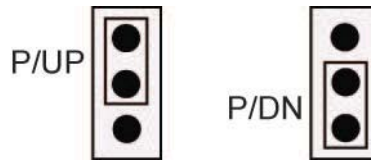

Figure 8. Pull-up/down jumper configuration
5. Set each jumper for pull-up (P/UP) or pull-down (P/DN), as shown in Figure 8. Use the jumper labeled **DIO A** to configure Port A, and **DIO B** to configure Port B.